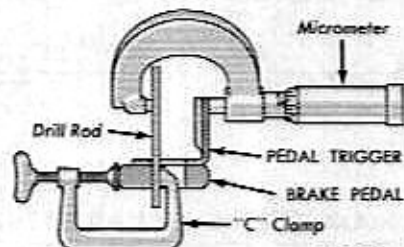

FIG. 14—Pedal Trigger Check
7. Measure the trigger location as shown in Fig. 14. The micrometer reading should be 0.950 inch plus or minus 0.005. If the micrometer reading is not within these limits, bend the trigger to the correct position or replace the pedal.